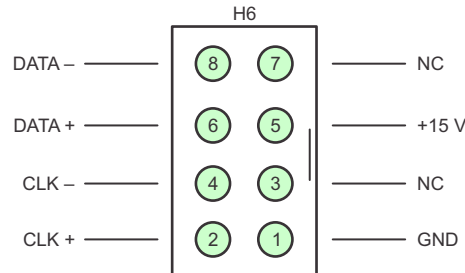

Figure 11. Abs-Enc-1 (J7) Pinout on TIDM-1010 Board
2. Insert the header of the adaptor created in the previous step to connect to Abs-Enc-1 (J7). The female end of the cable connects to the encoder. Figure 11 shows the pinout of J7.